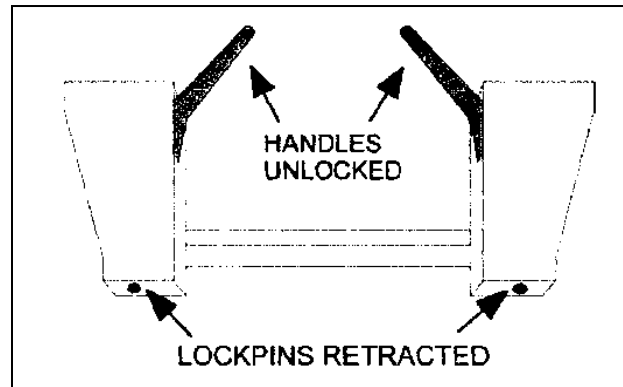

Figure 1. Quick Attach Coupler Handles – Unlocked
2. The quick attach coupler handles should be in the unlocked position with lock pins retracted, Figure 1.